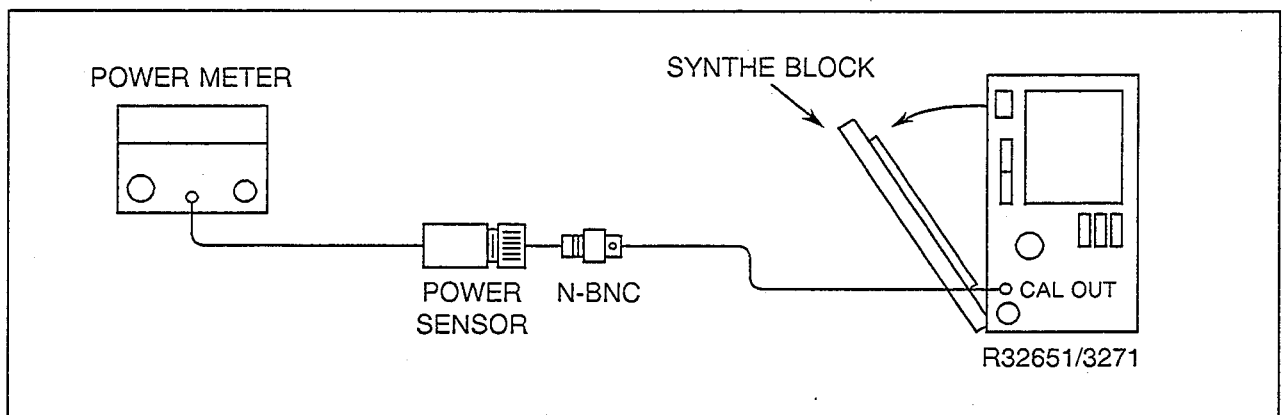

Figure 5-13 Calibrator Amplitude Adjustment Setup
- (1) Turn off the POWER switch of the R3265/3271, and disconnect the power cord. Remove the analyzer cover, place the analyzer as shown in Figure 5-13, and fold down the SYNTH BLOCK assembly.
- (2) Turn on the POWER switch of R3265/3271, and warm it up at least 30 minutes before starting adjustment.
- (3) Zero and calibrate the power meter in the Log Display mode. Enter the 25MHz CAL FACTOR signal of the power sensor to the power meter.
- (4) Connect the R3265/3271 through an N-BNC adapter directly to the CALOUT jack on the R3265/3271 front panel.